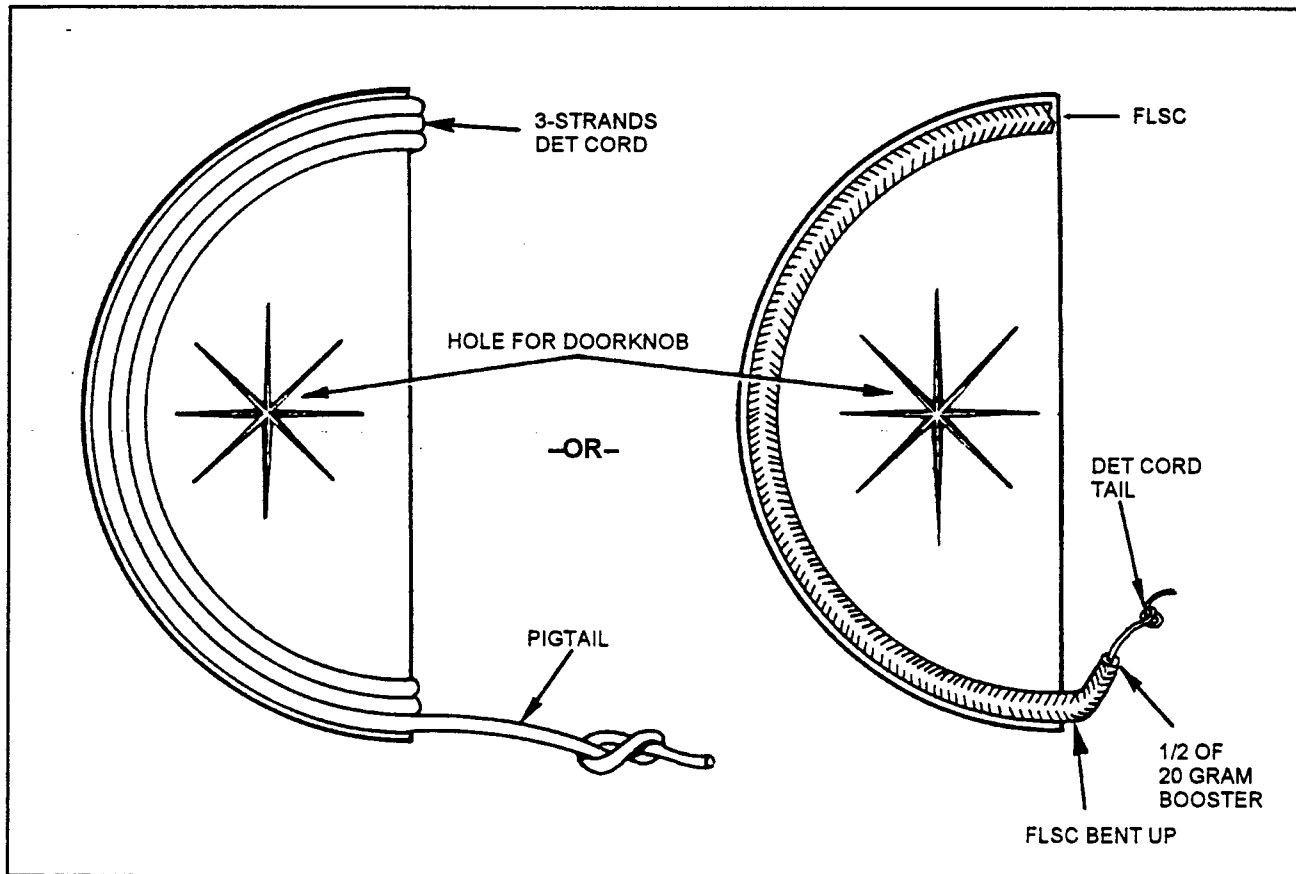

Figure M-7. Doorknob charge.
(1) Cut the appropriate amount of detonation cord for the charge. Use a 30-inch length for a hollow-core door. For a particle-filled door, use one 30-inch length and one 18-inch length. For a solid-core wooden door or a light metal door, use one 30-inch length and two 18-inch lengths.
(2) Cut the charge holder from a piece of stiff cardboard.
(3) Tape the detonation cord in the shape of a large "C" along the edge of the charge holder. Leave a 12-inch pigtail for priming (Figure M-7). Place double-sided tape on the back of the charge holder.
(4) If using FLSC, cut a length 21 inches long. Cut a 20-gram Detaprime booster in half. Tape the FLSC to the charge holder, leaving a 3-inch tail for priming. Bend the tail upward. Slide a 12-inch length of detonation cord through the Detaprime booster and tie an overhand knot on each end. Tape the booster and detonation cord combination to the tail end of the FLSC.
(5) Hang the charge on the door knob or locking mechanism. Secure it in place with the double-sided tape. The detonation cord must be held firmly against the door's surface.